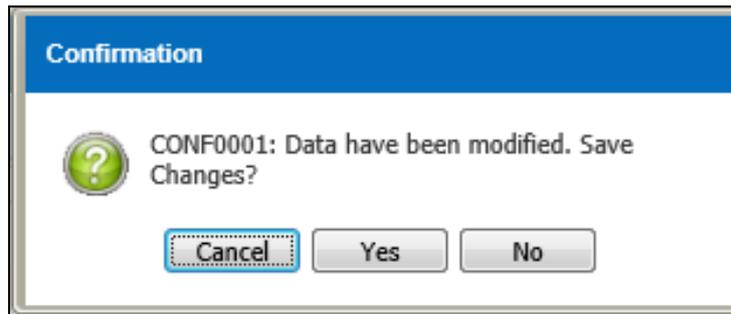

Figure 3.11.1-6 Confirmation Message
- Alert message as shown in Figure 3.11.1-6 will be displayed after user save the transaction
- Record will save when user click on the  button as shown in Figure 3.11.1-7